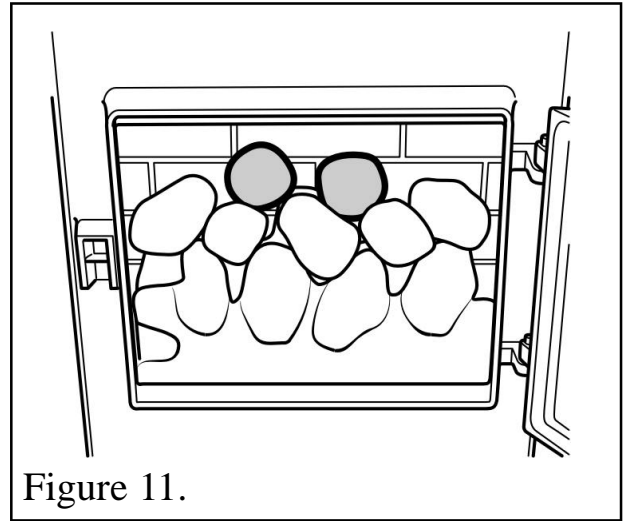

Figure 11.
- 9.** Locate the two ceramic coals identified with a number '3' as in figure 11.